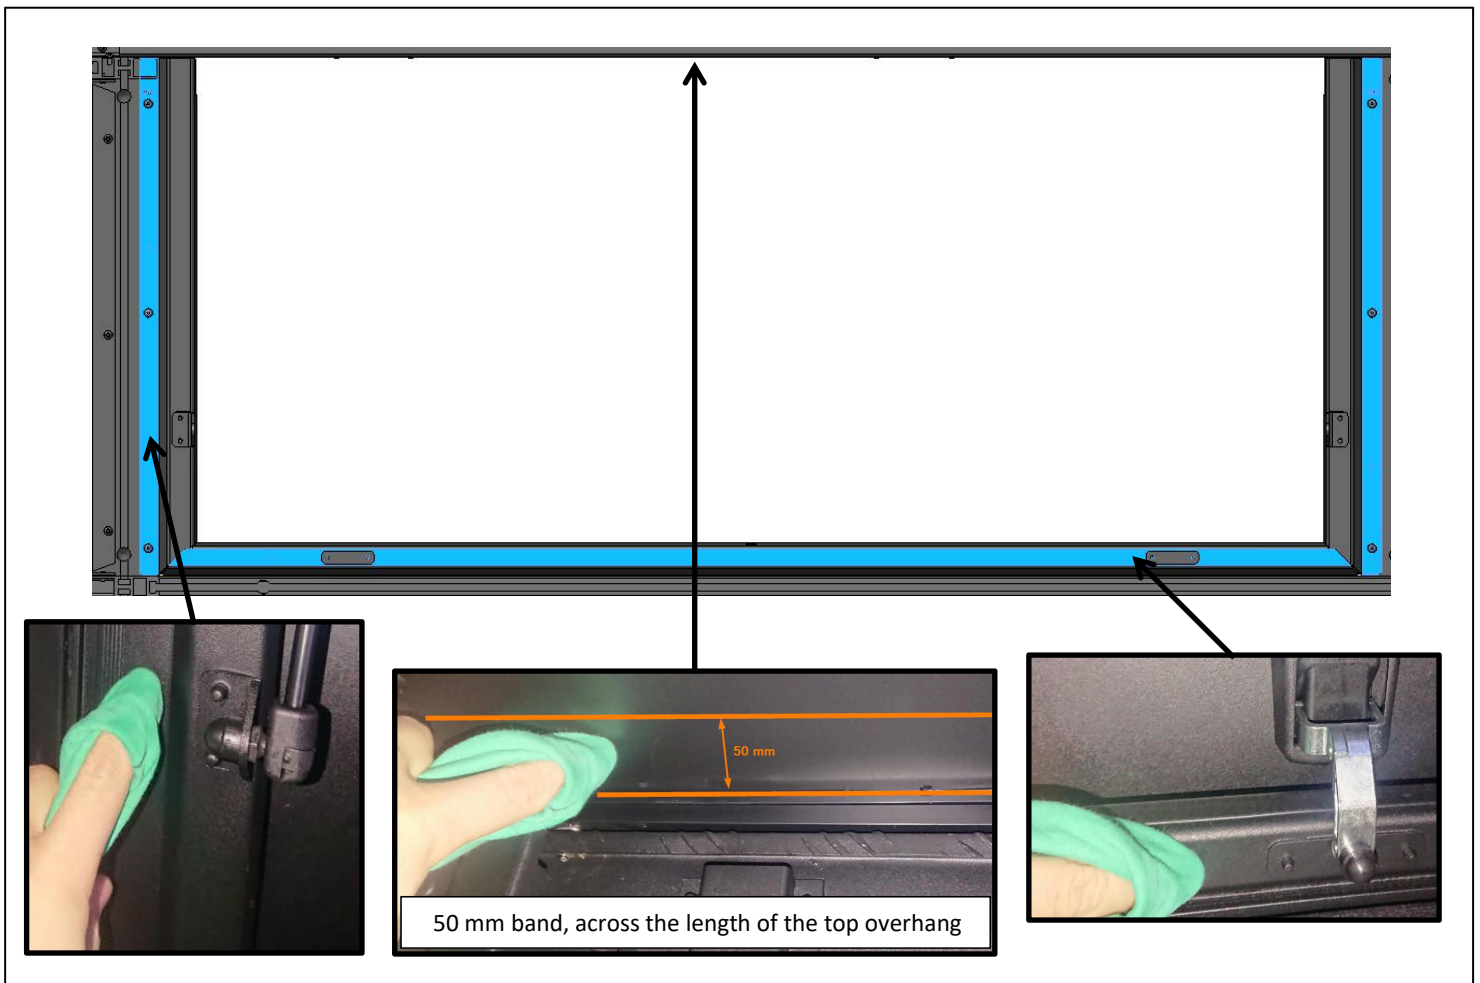

Figure 1: Cleaning / Priming Surface Indication, around Side Window.
2.1 Cleaning: The surfaces that need to be cleaned with the 50/50 mixture of Isopropyl Alcohol and water are indicated in Figure 1, below. Use a clean cloth/rag to gently wipe the indicated surfaces with the cleaning mixture. Allow enough time for evaporation. (The surfaces should be bone dry before progressing to the next step.)